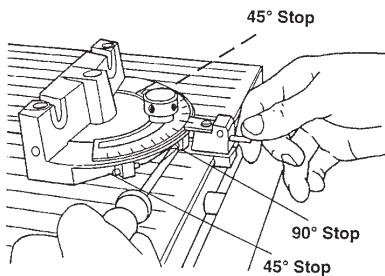

Figure C-53
52. Use a small screwdriver to back out the 90° stop screw 2 to 3 turns, see Figure C-53.